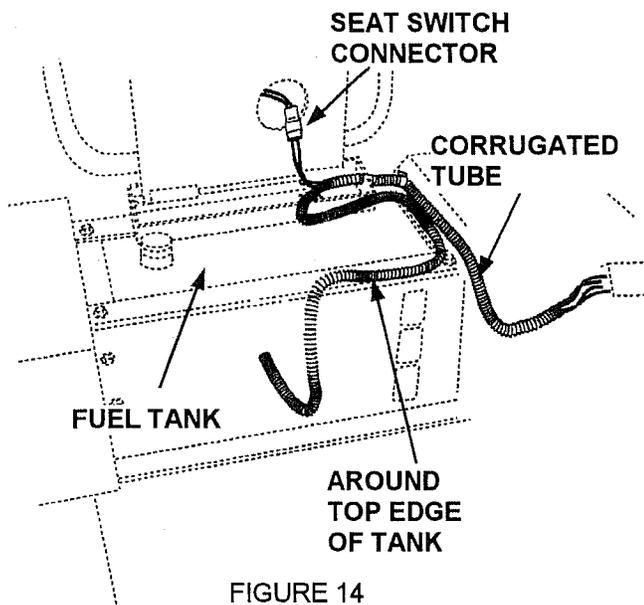

FIGURE 14
1. (See figure 14) Route the rear of wire harness. (with corrugated end)